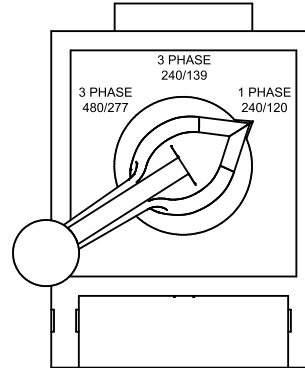

**Figure 20. Voltage Selector Switch
1. Place the **Voltage Selector switch** in the **single-phase, 240/120-volt position** as shown in Figure 20.